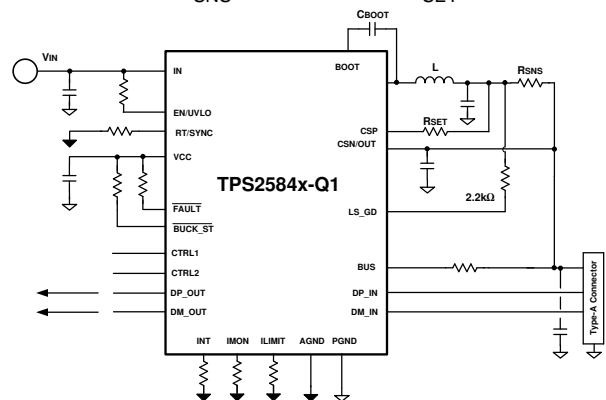

图 44. Buck Average Current Limit
- Buck Average Current Limit 图 44: